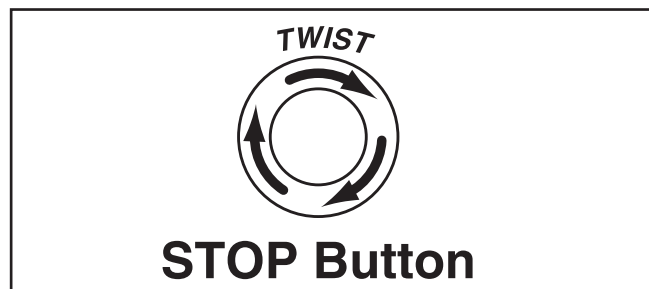

Figure 16. Resetting the switch.
5. Push the stop button in, then twist it clockwise so it pops out. When the stop button pops out, the switch is reset and ready for operation (see **Figure 16**).